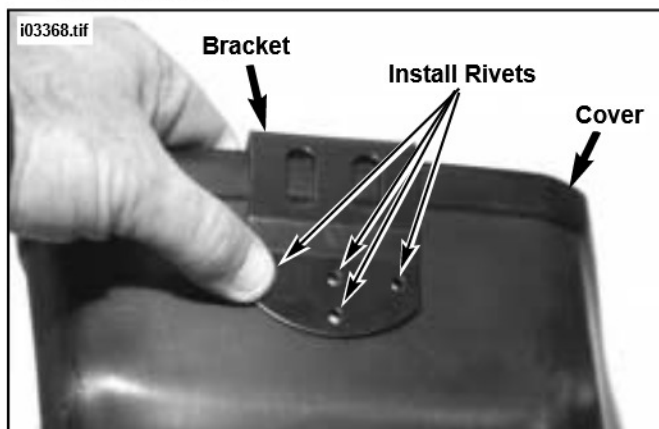

Figure 8. Install Large Airbox Cover Bracket
23. See Figure 8 and Service Parts Illustration. Obtain airbox cover and large airbox cover bracket from kit. Orient bracket as shown and install four rivets to secure bracket to cover.